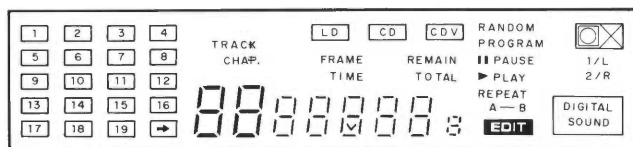

Fig. 8-2
- When the test mode is initiated, all segments of the FL display light until a key is operated (refer to Fig. 8-2).